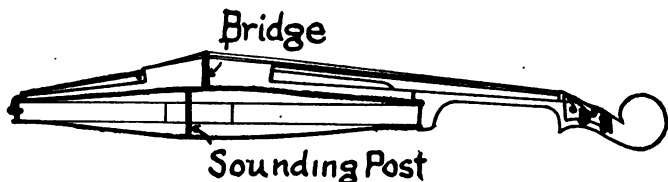

FIG. 144.—SOUNDING BOX AND SOUNDING POST
*sounding box*, the front and back of which are connected by a *sounding post* (Fig. 144). In this way both boards are set in vibration together. The quality of the tone of any instrument is determined by the number of the overtones that are present and by the proportion in which they are combined